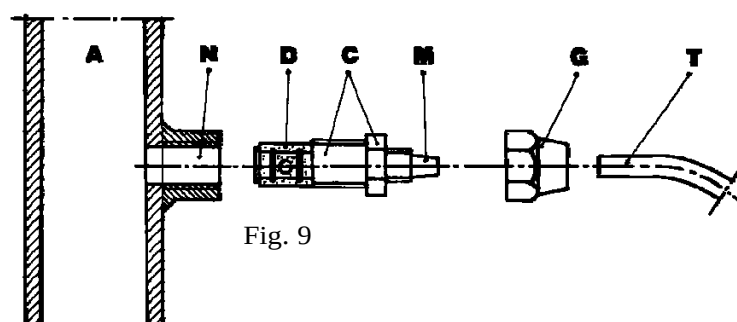

Fig. 9
h. Select the most appropriate injection point on a pipe of the plant to be treated and fit a steel 3/8" female gas connector. This connector is not supplied with the pump. Screw the injection valve to the gas connector, using Teflon® tape as a gasket as shown in Fig. 9. Connect the discharge piping to the conical connector on the injection valve and lock it with the ring-nut G. The injection valve also acts as a non-return valve.
(fig.9)